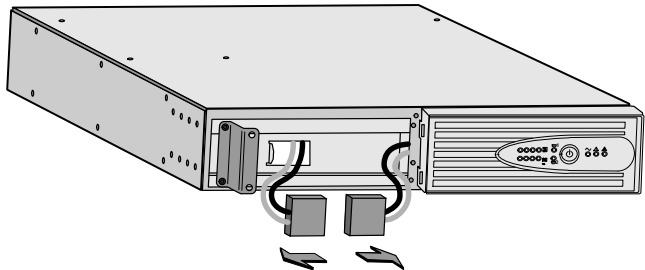

Figure 26. Disconnecting the Internal Battery Connectors
2. Disconnect the internal battery connectors (see Figure 26).